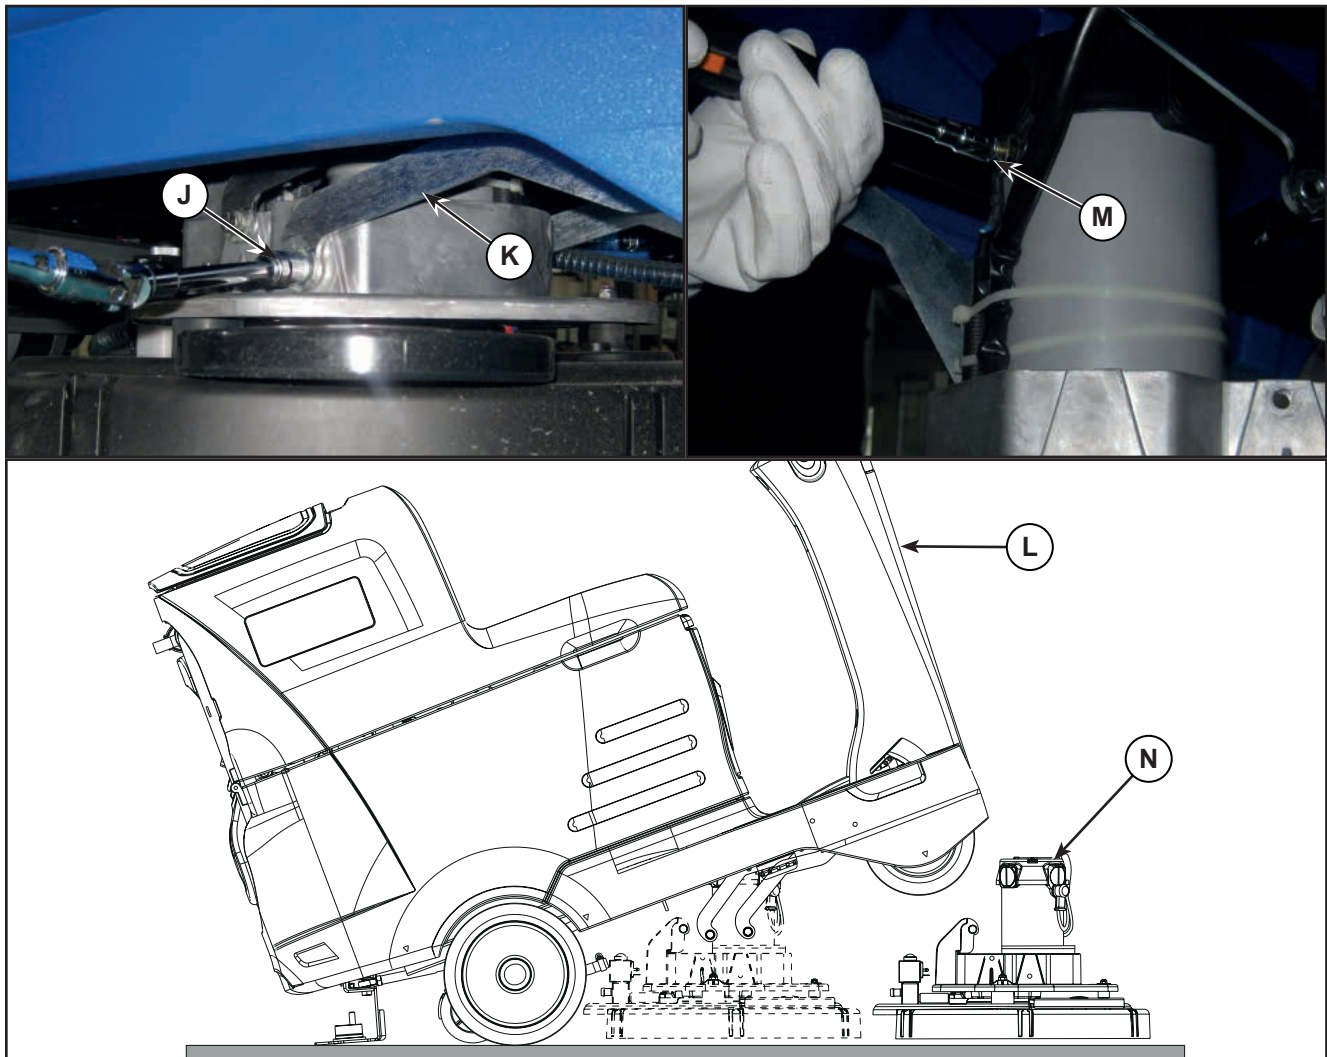

Figure 10:
**WARNING:** To easily remove the brush deck, lift the machine body at the front side as shown (L, Figure 10). Use extreme caution and follow the safety regulations using proper equipment or safety fixed supports suitable for the purpose.
12. Remove the 4 screws (J) (Figure 10) from the raising levers (K).
13. Lift the machine body (L) and disconnect the electrical wiring harness (M) from the brush motor, then remove the brush deck (N) under the machine body.